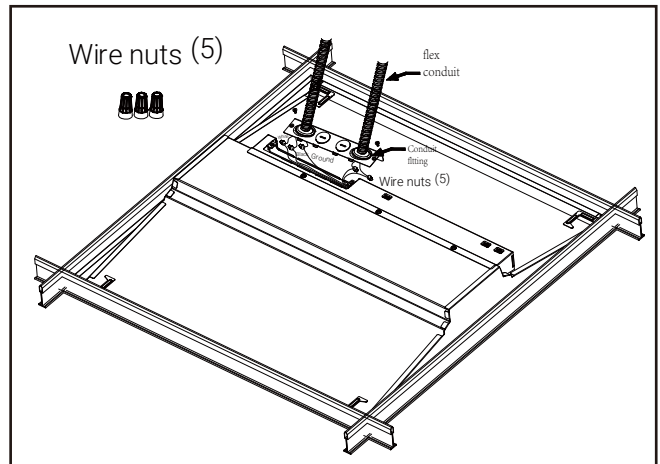

Figure 4.
7. Use the three wire nuts to attach the ground wire to the ground supply wire, the black (line) wire to the black supply wire, and the white (neutral) wire to the white supply wire (Fig. 4).